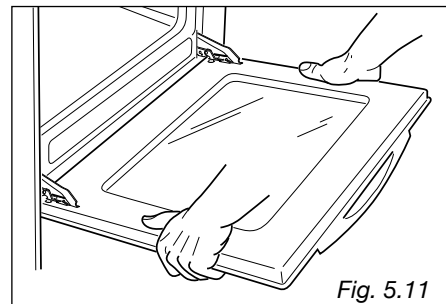
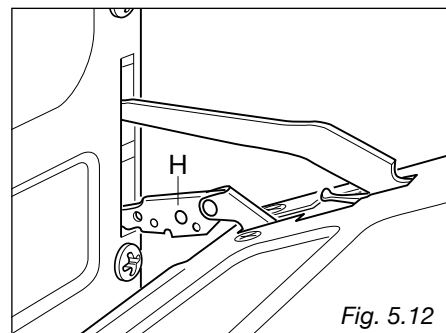

Fig. 5.11
Fig. 5.12
- Grip the door (as indicated in fig. 5.11) and, while closing it, release the two hinges as shown in fig. 5.12.
- Grip the door with your hands placed near the hinges and raise the levers “H” with your forefingers (fig. 5.12)